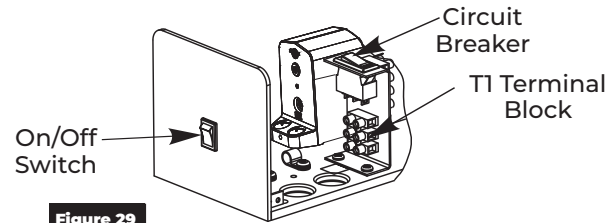

Figure 29
Surface Wiring (Figure 29)
3. Turn on power at On/Off switch and flip breaker switch to "RESET". (Figure 29)